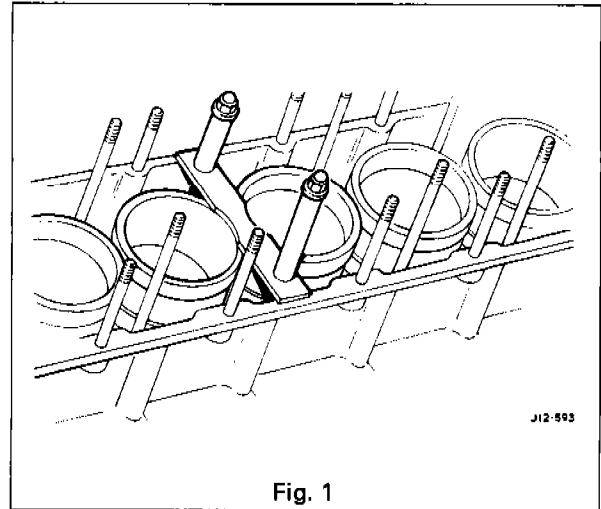

Fig. 1
- Fit cylinder sleeve retainers, Service Tool JD 41 (Fig. 1).
- Remove the cylinder sleeve retainers Special Tool JD 41, (Fig. 1).
- Remove the sprocket retaining tool – Service Tool JD 40 (1 Fig. 1).
- Rotate the crankshaft until the camshaft is at TDC and align using Service Tool C3993 (Timing Gauge) (Fig. 1).
- Engage the camshaft sprocket (1 Fig. 1) to the camshaft.
- Remove the snap-ring (3 Fig. 1).
- Reposition the coupling (4 Fig. 1) to align the retaining holes, and refit the snap-ring (3 Fig. 1).
- Fit but do not fully tighten one retaining bolt (5 Fig. 1) and new tab washer (6 Fig. 1).